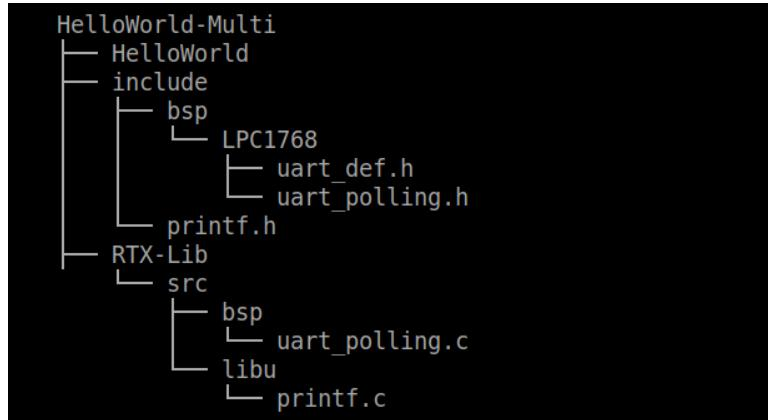

Figure 7.40: Directory Structure of a Multi-Project Workspace. The HelloWorld directory layout is omitted.
- Copy printf.c into the libu sub-folder (see Figure 7.40).
Your directory structure should look like what is shown in Figure 7.40. Note we omitted the directory layout of the HelloWorld folder.